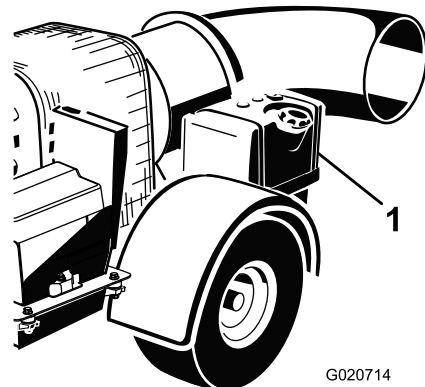

Figure 12
2. Clean the area around the fuel tank cap and remove the cap (Figure 12).